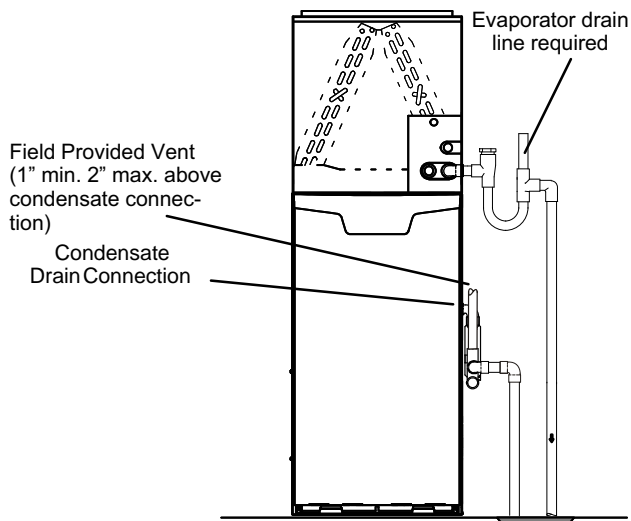

FIGURE 44
- 5 - Figures 44 and 46 show the furnace and evaporator coil using a separate drain. If necessary the condensate line from the furnace and evaporator coil can drain together. See figures, 45, 47 and 48.